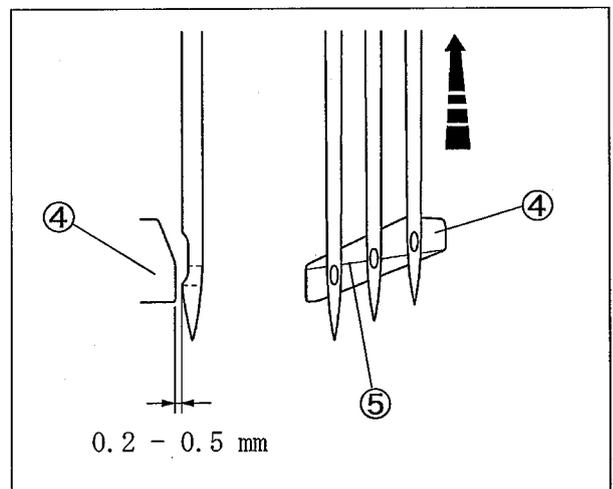

Fig. 6-20
- (2) When raising the needles, and the upper needle eye of the left needle ⑥ is aligned with the ridge line ⑤ on the needle guard(rear) ④, make the clearance between them to 0.2 - 0.5 mm. (Fig. 6-20)